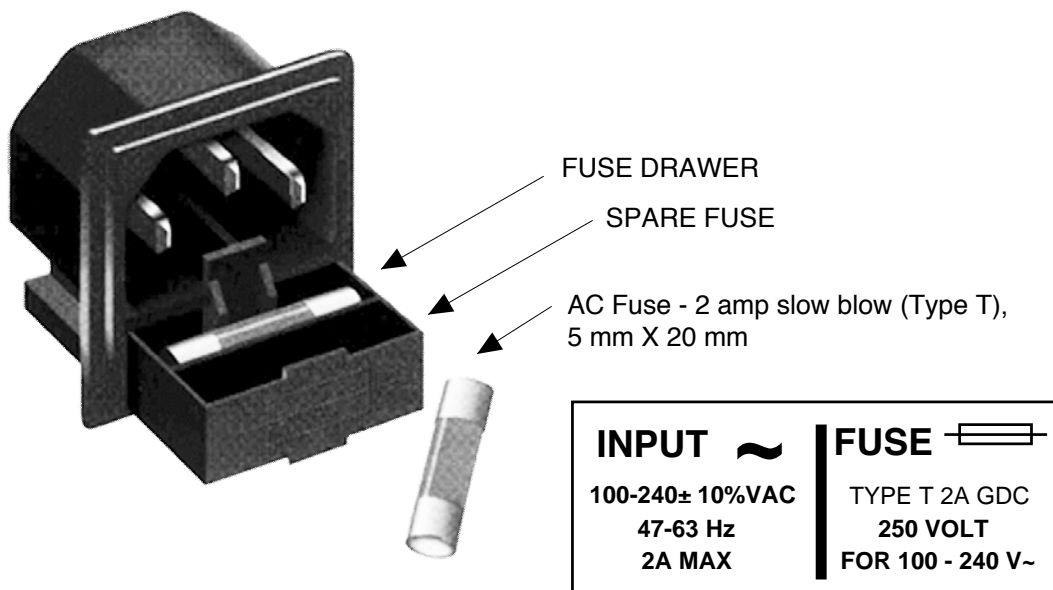

FIGURE 2.3 Fuse Location and Spare Fuse
7. AC Fuse - The fuse is a 5 mm X 20 mm, 2 amp slow blow (Type T) and is inserted in the far slot in the drawer below the AC input as shown in Figure 2.3. There is a spare fuse in the near slot. If a fuse continues to open, the power supply is most likely defective.